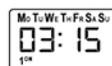

Figure9
4.2.3.2. Set first ring of bell time: press the "MD" button to set first bell time, respectively, according to " "turn into minutes, hours, weeks mode setting, then set bit flashes, such as Figure 9, press the "+" "-" buttons to set Working clock, The days will work on behalf of the week mode of light. After setting, press "MD" key to enter 2ON (second group of bell) time set.